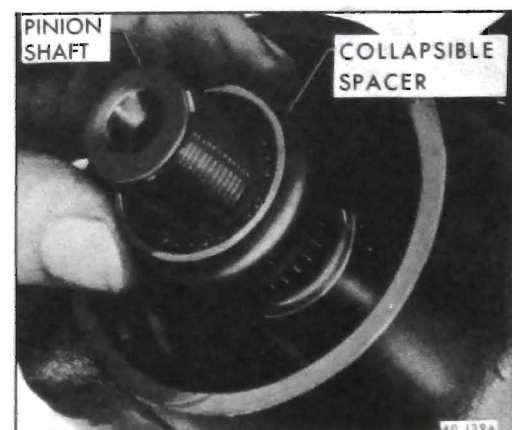

Figure 40-144 Installing Collapsible Spacer
4. Position pinion assembly in carrier and install collapsible spacer as shown in Figure 40-144.